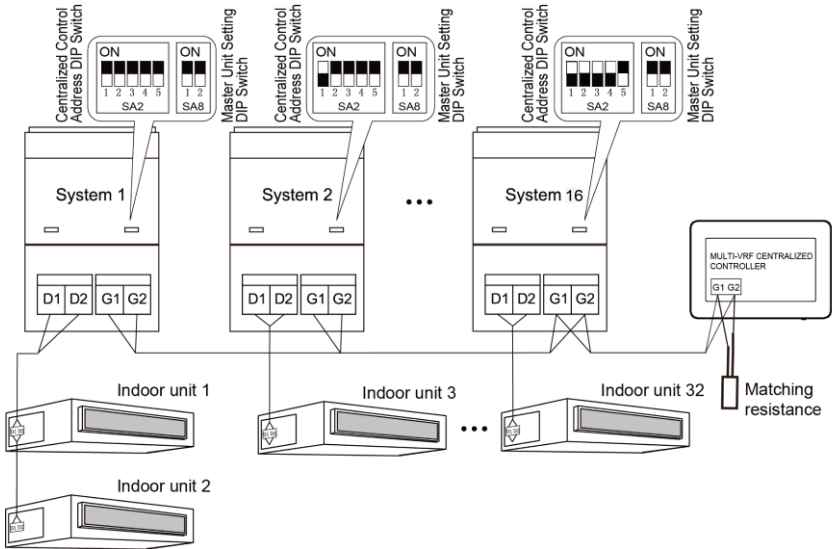

Fig.1.5 Centralized Controller Connected with Outdoor Network
- ③ If the centralized controller is to be connected with the network of outdoor units, connect according to fig.1.5. The centralized controller can only be connected with the terminal system of the outdoor network. A matching resistance needs to be added with the communication cords at the G1 and G2 ports.
- ④ The centralized control address DIP switch (SA2_Addr-CC) indicates the